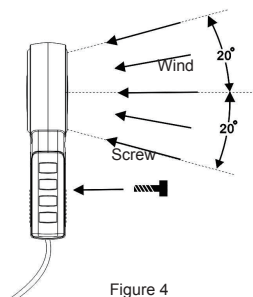

Figure 4
## Measuring Air Velocity (Air Temperature)(See Figure 4)
4. As shown in Figure 4, place the anemoscope in a direction as marked on inner side of the fan. And secure the handle with a screw (the user needs to buy the screw on his/her own).
6. To obtain a accurate reading, please hold the anemoscope horizontally as in the Figure 4, the angle deviation should be < 20°.